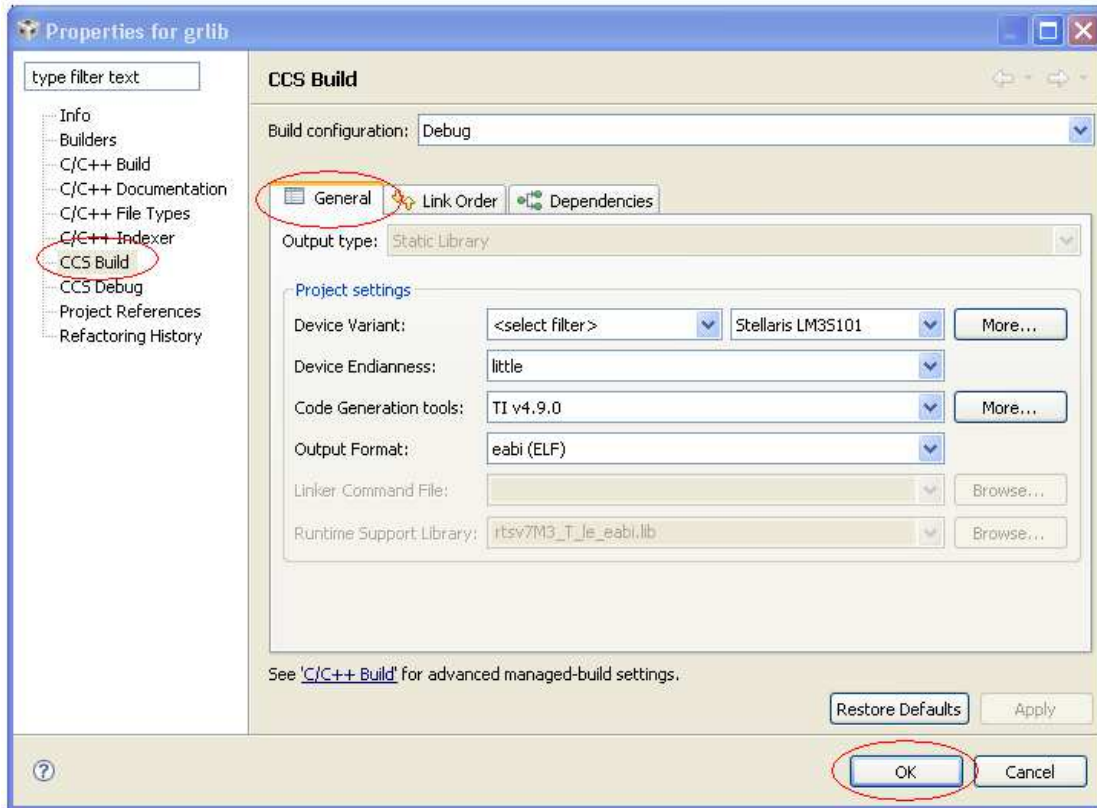

Figure 32. Properties for grlib (Code Composer Studio Build)
- Click the OK button on the window that appears next (as shown in Figure 32) and return to the Code Composer Studio properties for this project.